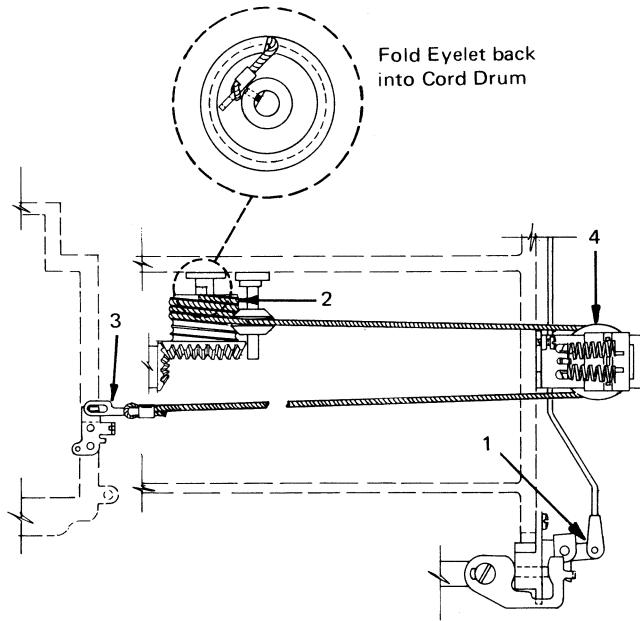

Figure 4-2. Escapement Cord Replacement
2. Disconnect the carrier return unlatching link (No. 1, Figure 4-2).
- Connect the escapement cord to the drum, and wind approximately one turn of the cord around the drum (No. 2, Figure 4-2).
- Thread the cord around the cord tension pulley (No. 4, Figure 4-2), and then connect it to the carrier (No. 3, Figure 4-2).